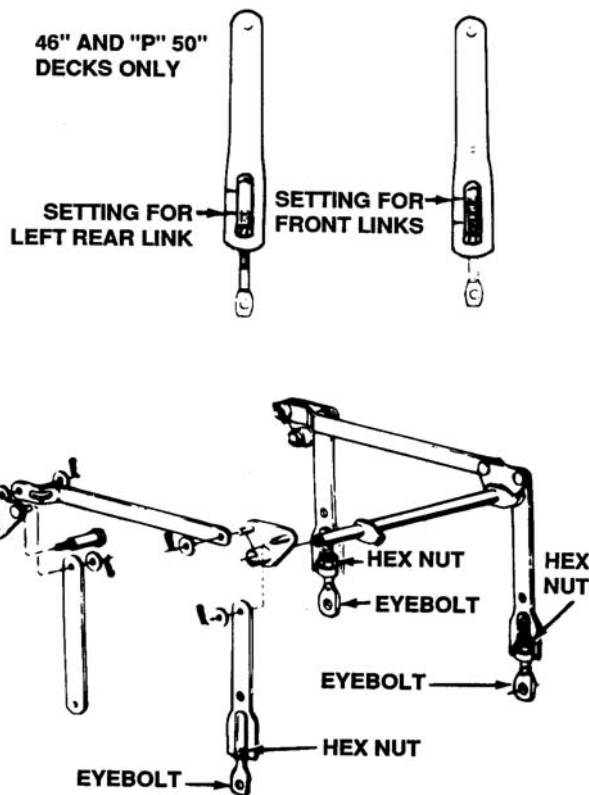

Figure 8-21. Deck Link Installation for 46-Inch Decks
1. Start 1/2 inch hex nuts on eyebolts provided. Insert the hex nuts and eyebolts into the adjustable lift links. See Figure 8-21.